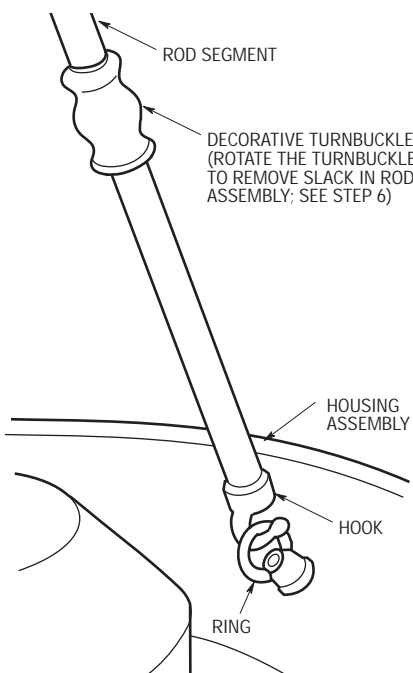

Figure 17
- 2. Verify that one or two threads are visible between the decorative turnbuckle and the rod segments (Figure 17). If necessary, turn rod segments to expose more threads. Repeat for all rod assemblies.
- 3. Engage the rod hook with the ring in the housing assembly (Figure 17).
- 6. Tighten (rotate) the turnbuckles (Figure 17) of the rod assemblies to take up any slack, thereby reducing the chance of noise due to vibration when the fan is operating.